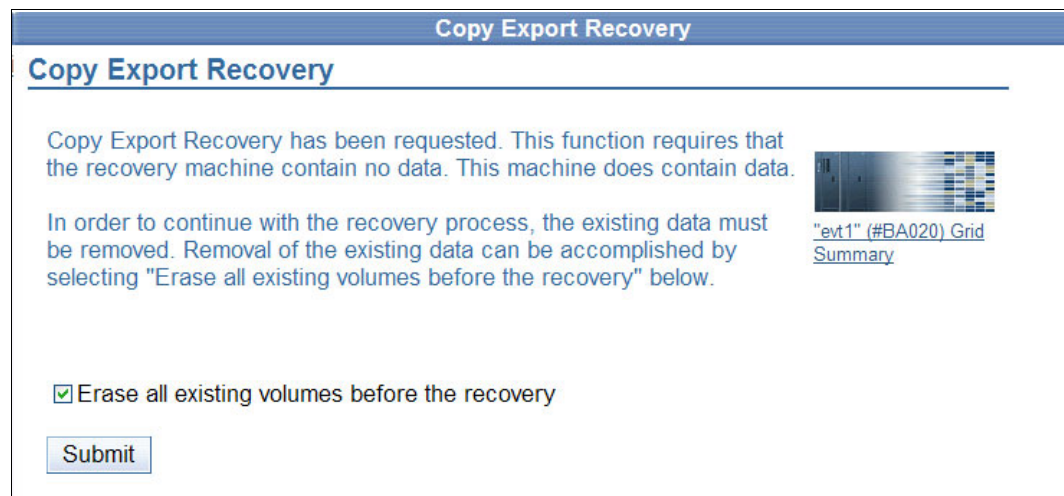

Figure 10-13 Copy Export Recovery window with erase volume option
2. The TS7740 determines that data exists in the cache and so do database entries. Copy Export Recovery cannot be performed until the TS7740 is empty. Figure 10-13 shows the window that opens, informing the operator that the TS7740 contains data that must be erased.